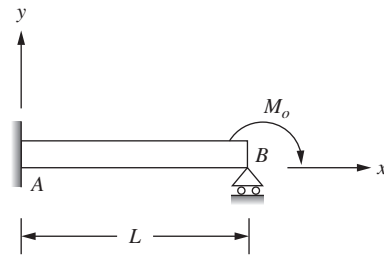

Figure P8.36 A cantilever beam for problem P8-36.
- 8-36.** A cantilever beam is pinned at the end $x = L$, and subjected to an applied moment M_o as shown in Fig. P8.36. The deflection $y(x)$ of the beam is given by